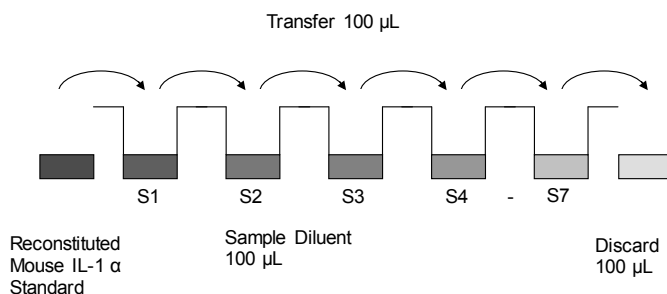

Fig. 7 Dilute standards - microwell plate
3. Standard dilution on the microwell plate (Alternatively the standard dilution can be prepared in tubes - see "External standard dilution" on page 3): Add 100 μ L of Sample Diluent in duplicate to all standard wells. Pipette 100 μ L of prepared standard (see "Mouse IL-1 α standard" on page 3, concentration = 1000 pg/mL), in duplicate, into well A1 and A2 (see Table 1). Mix the contents of wells A1 and A2 by repeated aspiration and ejection (concentration of standard 1 S1 = 500 pg/mL), and transfer 100 μ L to wells B1 and B2, respectively (see Figure 7). Take care not to scratch the inner surface of the microwells. Continue this procedure 5 times, creating two rows of mouse IL-1 α standard dilutions, ranging from 500.0 to 7.8 pg/mL. Discard 100 μ L of the contents from the last microwells (G1, G2) used.